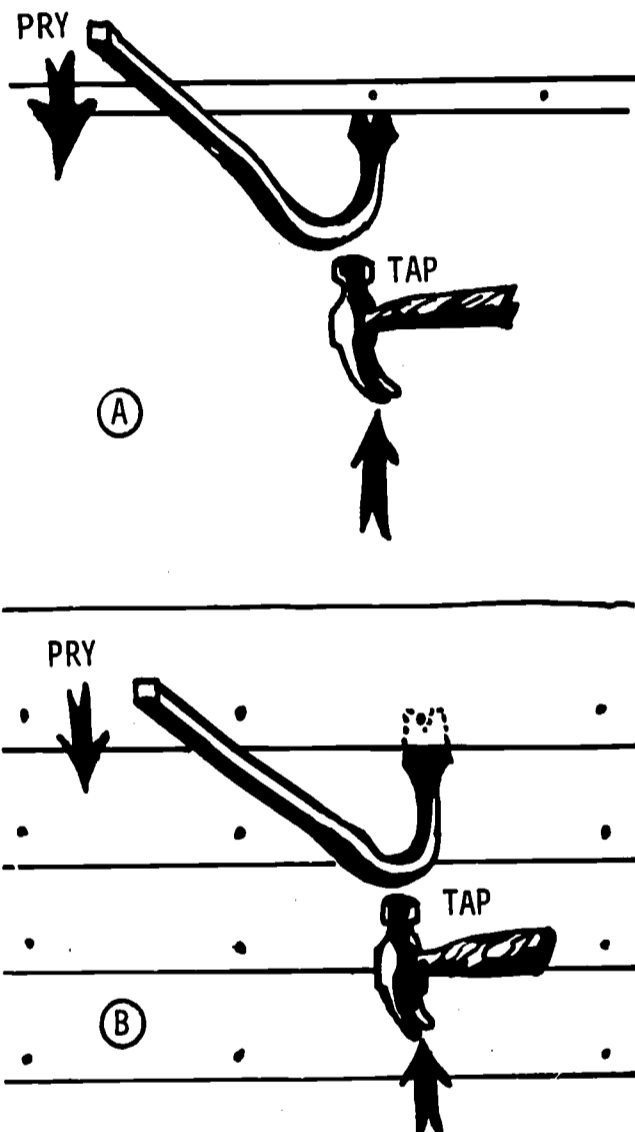

Fig. 70-74-1. Using Nail Claw to Loosen Boards
1. Remove and salvage the electrical fixtures, trim, ceiling tile and horizontal siding. See Figs. 70-74-1 and 70-74-2.